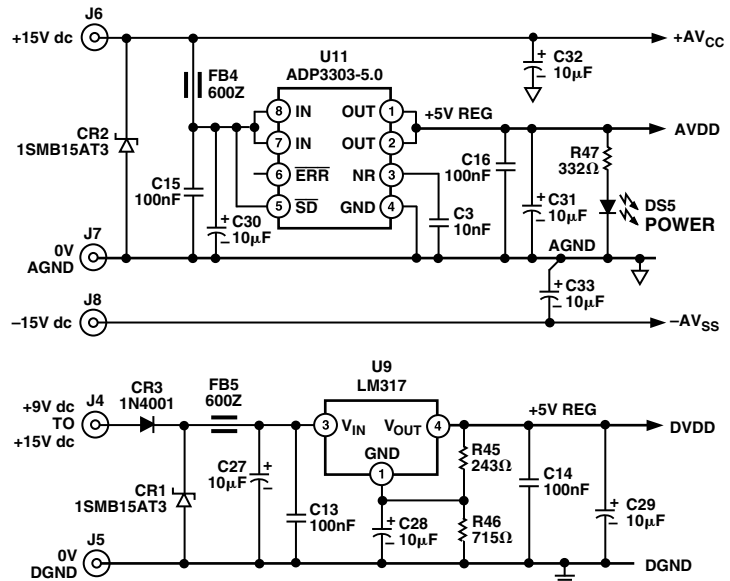

Figure 3. DAC Output Filters, Power and Reset
- DAC output LP filter, power and reset schematics are shown in Figure 3.